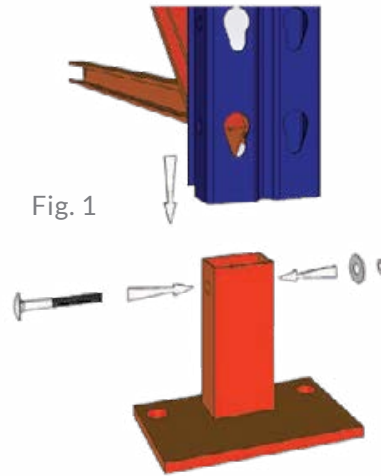

Fig. 1
Step 1 | Take two posts and fit the feet with 2 x M10 x 40 bolts supplied to the bottom of post. The feet may only fit one end of post as hole distance from end to end can vary. (Fig. 1)